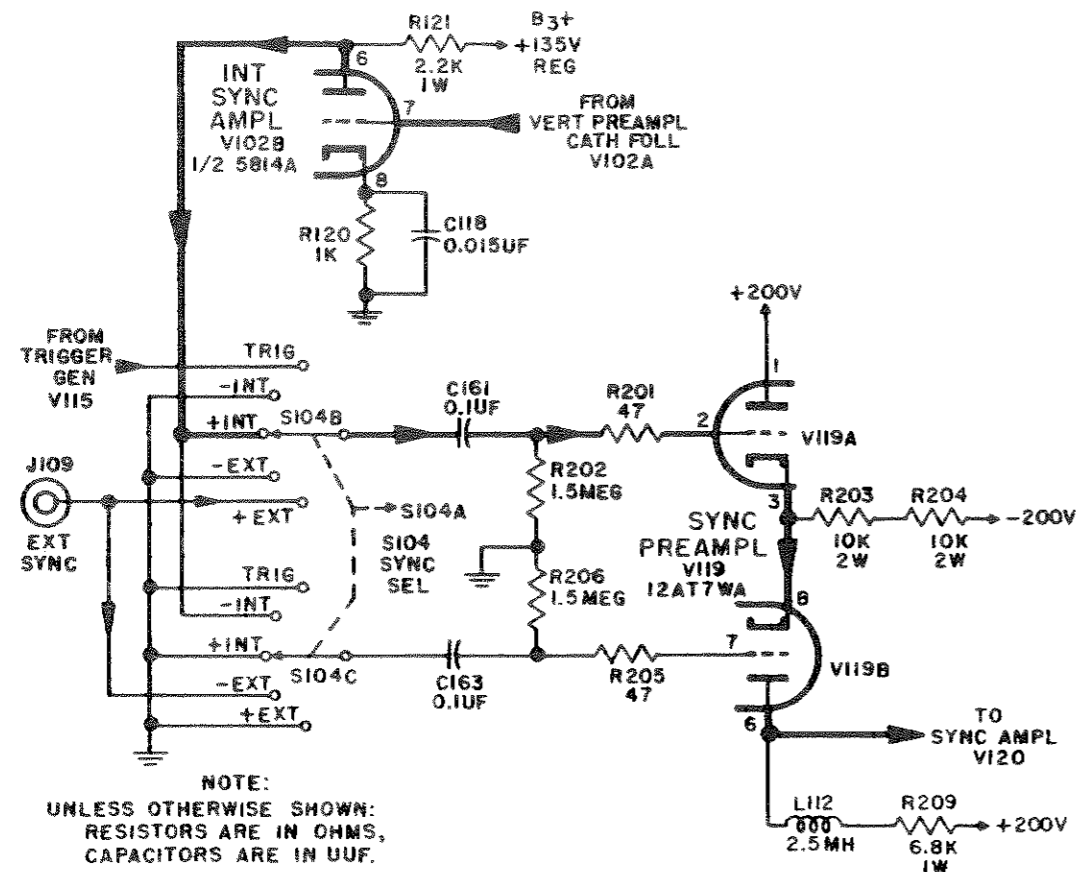

Figure 2-11. Sync Selector Switch and Sync Preamplifiers, Simplified Schematic Diagram.
(4) SYNC CIRCUIT (See figure 2-11) - The Sync Circuit consists basically of Sync Preamplifier V119, type JAN12AT7WA, Sync Amplifier V120, type JAN5814A, and the SYNC SEL switch S104. The circuit is so designed that the Gate Generator can be synchronized to either the positive or the negative going portion of a sync signal originating either internally or in external equipment. In normal operation, the leading edge of the sync signal is used to trigger the sweep circuit so that the whole of the signal in the Vertical Channel will be displayed. SYNC SEL switch S104 adapts the sync circuits to both the polarity and the source of the sync signal. In +EXT position the positive going portion of a signal originating in equipment external to the oscilloscope is used for sync purposes. Jack J109 EXT SYNC is connected via S104B and the coupling capacitor C161 to the grid of the cathode follower section V119A. S104C now connects directly to ground the grid capacitor